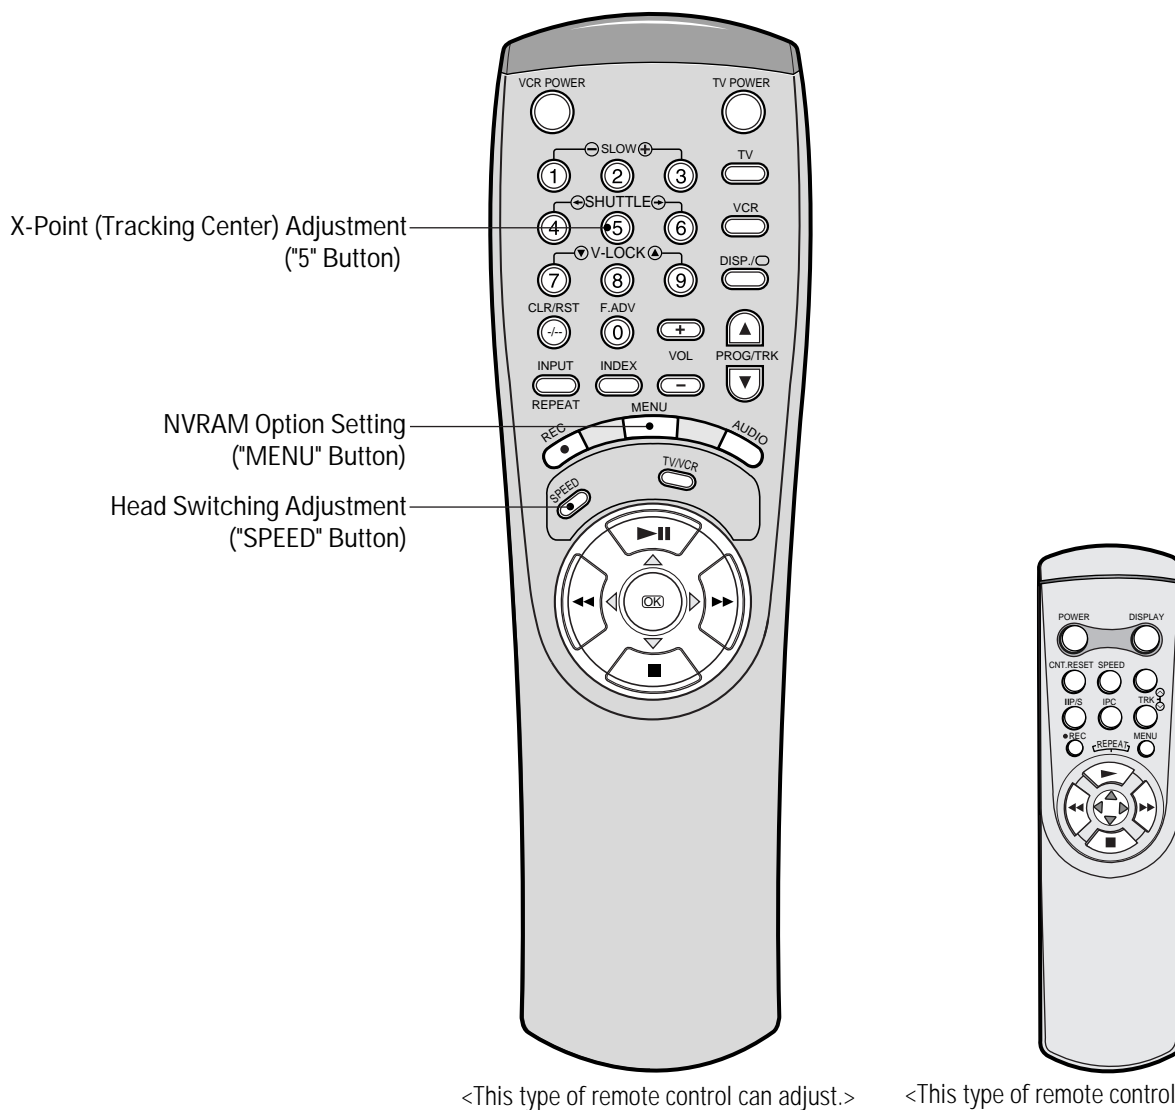

Fig. 2-1
- 3) Press the “5” button of remote control then adjustment is operated automatically. (See Fig. 2-1)
- 3) Press the "SPEED" button of remote control then adjustment is operated automatically. (See Fig. 2-1)